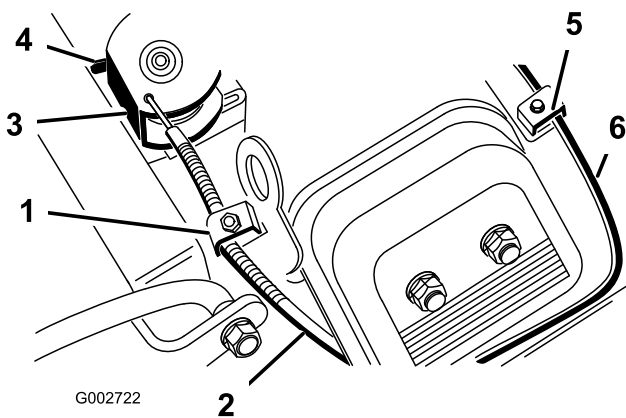

Figure 36
2. Loosen the cable clamp screw securing the cable to the engine (Figure 36).
4. Pull firmly on the throttle cable until the back of the swivel contacts the stop (Figure 36).
4. Pull firmly on the choke cable (Figure 36) until the choke butterfly is completely closed; then tighten the cable clamp screw.